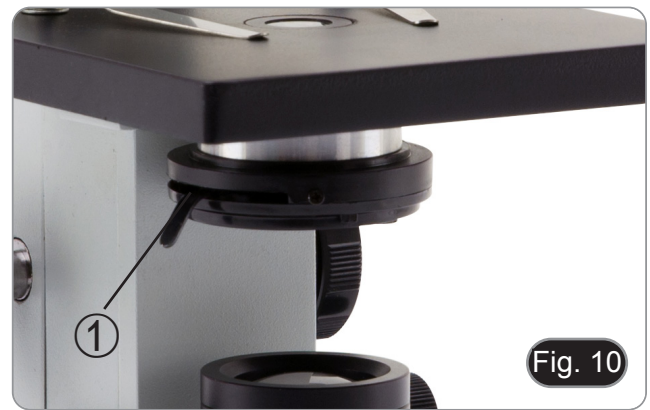

Fig. 10
- The Numerical Aperture (N.A.) value of the aperture diaphragm affects the image contrast. Increasing or reducing this value one can vary resolution, contrast and depth of focus of the image. Move the diaphragm ring ① (Fig. 10) on the value corresponding to the objective in use. In this case the optimal setting of the condenser is achieved.